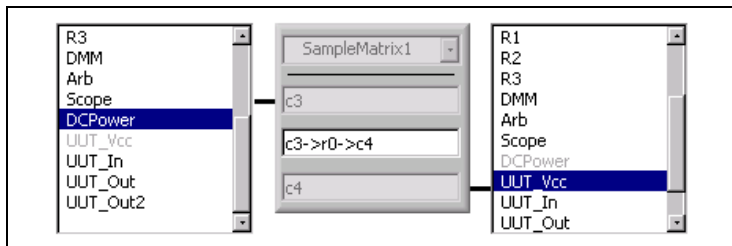

Figure 5. Complete Path
- b. Select the second endpoint of the route in the right column. Notice how the dashed line becomes a solid line in Figure 5. This solid line indicates the path is complete.